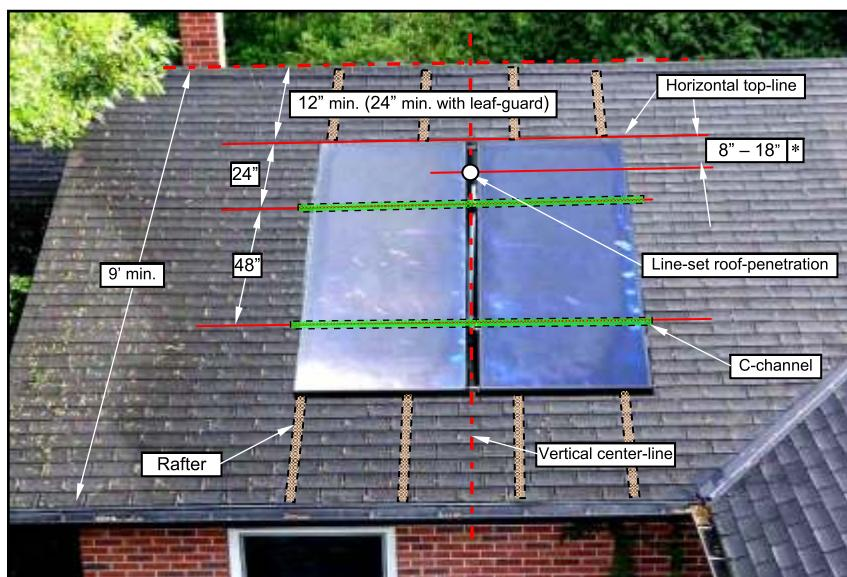

Fig. 5.1.2 – Collector mounting details.
3. Roof-penetration must be between collectors (or immediately next to collector on connection side of single-collector installation). Roof-penetration will serve as landmark to determine position of collectors and of C-channel (Fig. 5.1.2).
4. Collector dimensions are $46\frac{1}{4}$ " wide x $96\frac{1}{4}$ " tall (1175 mm x 2445 mm). A minimum of 10' (3000 mm) of roof slope is needed if leaf-guard is to be installed (leaf-guard is optional with 1 and 2-collector appliances, included with 3- and 4-collector appliances). Only 9' (2740 mm) of roof slope is needed for installations without leaf-guards. A minimum of 24" (610 mm) is required above collector if leaf-guard is to be installed. Only 12" (305 mm) is needed above collector for installations without leaf-guards, unless otherwise stated by local regulations (Fig. 5.1.2).
5. With this information and referring to Fig. 5.1.2, mark position of collector(s) and of C-channel. Note that when collectors are secured, the distance between them will be approximately 5.75" (146 mm).
6. Collector mounting points are 48" (1220 mm) apart. C-channels must be mounted horizontally (use level), 48" (1220 mm) apart, center to center (Fig. 5.1.2).